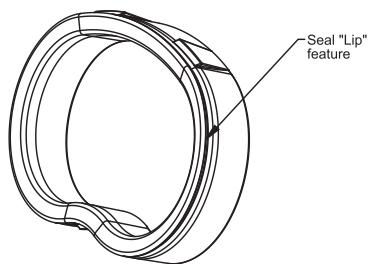

FIGURE 2
11. To reassemble, reseat seals into the seal cavity of the control valve body being sure that the lip of the seal is facing outward. **See Fig. 2.**